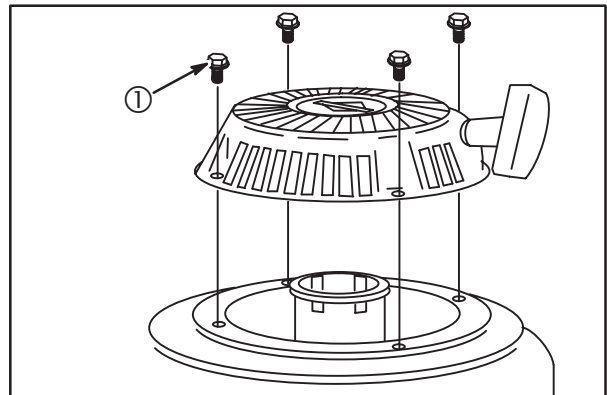

Fig. 74
- Install rewind starter on blower housing and install screws (1) finger tight, **Fig. 74**.